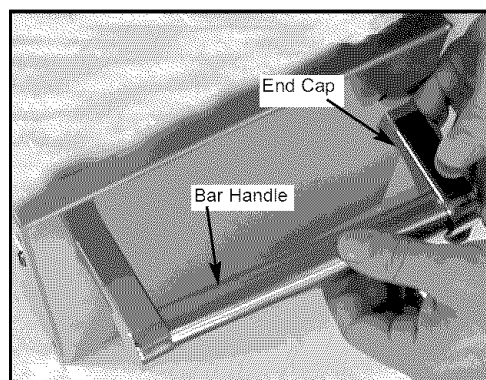

Fig. 10
2. Insert Bar Handle into the End Cap attached to the door and then into the other End Cap and tighten End Cap with allen wrench and screw. (See Fig. 10)